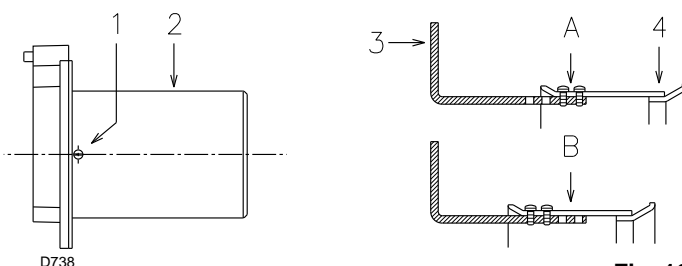

Fig. 16
- unscrew the screws 1)(Fig. 16) and disassemble the blast tube 2);
- move the fixing of the rod 3)(Fig. 16) from position A to position B, thereby causing the shutter 4) to retract;
- now refit the blast tube 2)(Fig. 16) and the screws 1).